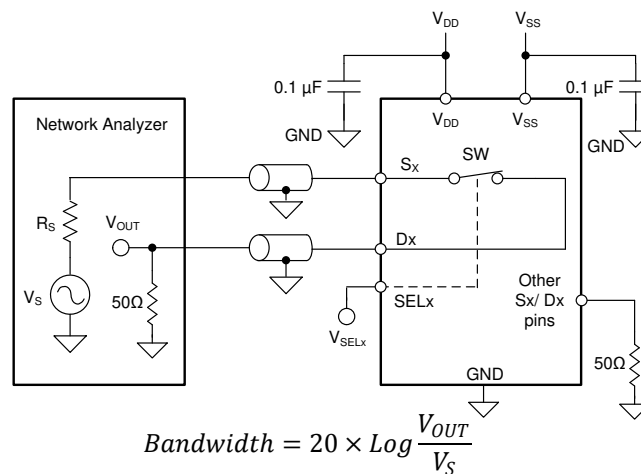

Figure 8-8. Bandwidth Measurement Setup
Bandwidth (BW) is defined as the range of frequencies that are attenuated by $< 3\ \text{dB}$ when the input is applied to the source pin (S_x) of an on-channel, and the output is measured at the drain pin (D_x). Figure 8-8 shows the setup used to measure bandwidth of the switch.